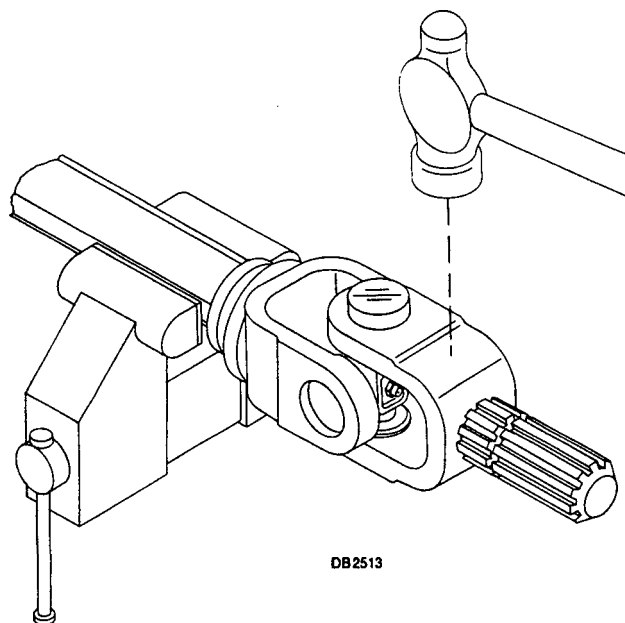

Figure 20
2. With snap rings removed, support drive in vise, hold yoke in hand and tap on yoke to drive cup out of yoke. See figure 20.